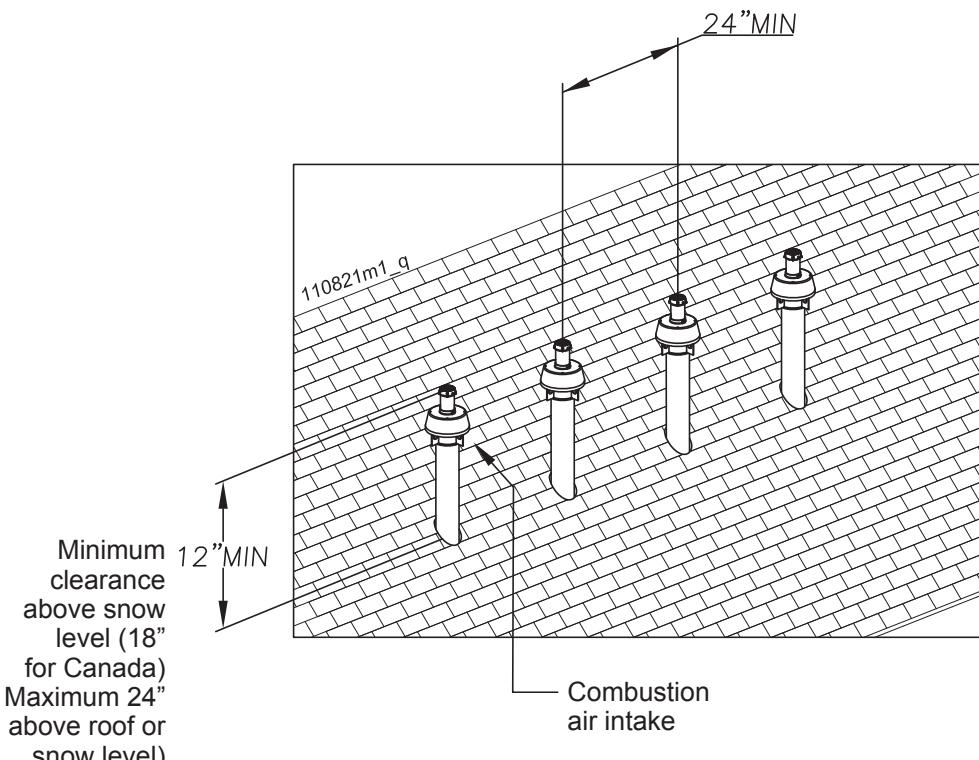

Figure 12-27 Concentric multiple heaters vertical terminations
When two (2) or more direct vent appliances are vented near each other, each appliance must be individually vented (see Figure 12-27).
When two or more direct vent appliances are vented near each other, two vent terminations may be installed as shown in Figure 12-27. It is important that vent terminations be made as shown to avoid recirculation of flue gases.